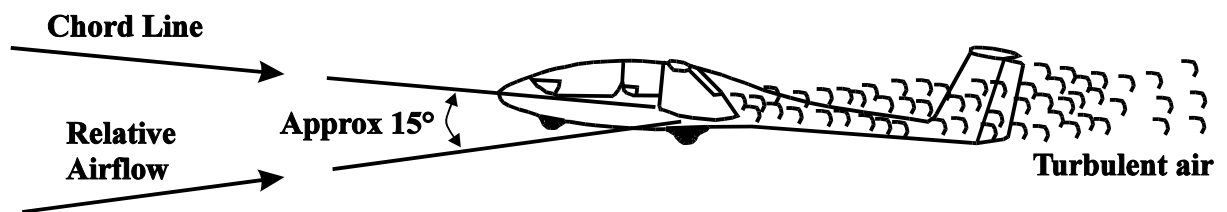

Fig 11. The approaching stall.
2. **Considerations.** When the angle of attack of an aerofoil exceeds a critical angle (about 15° for the Viking wing) the airflow over the aerofoil will progressively become turbulent and break away. See Fig 11. This dramatically reduces the amount of lift generated until it is no longer enough to support the aircraft and a large and rapid loss of height can occur. You will learn to recognise the symptoms of a stall and the correct recovery technique. Finally, you will learn to recognise the signs of a developing stall, so that you can prevent it from happening.